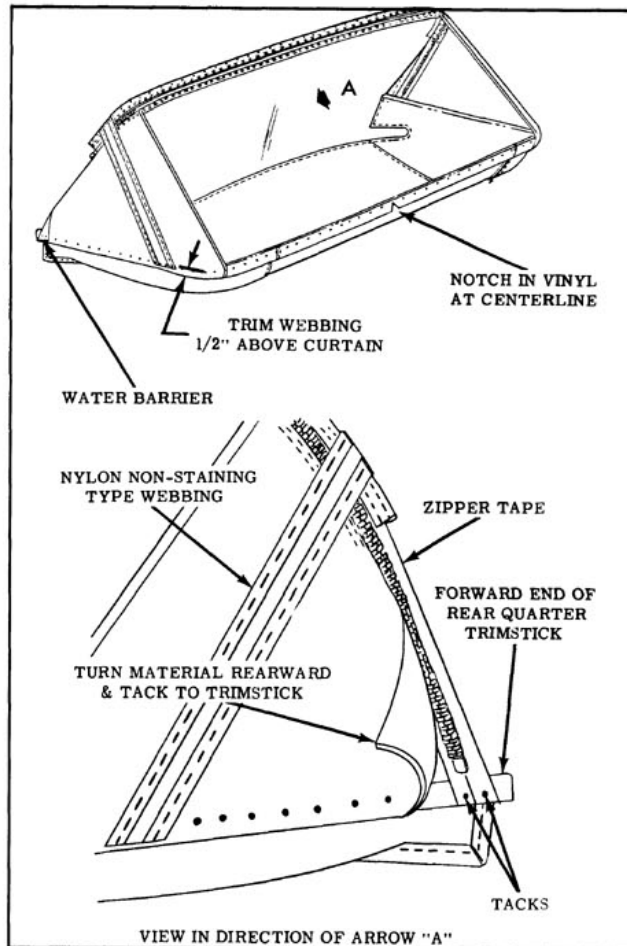

Fig. 16-136 Back Curtain Installation
NOTE: Notch in back curtain vinyl at lower edge indicates centerline of back curtain assembly. (Fig. 16-136) In addition, back curtain lower edge should extend 1/2" below lower edge of trim sticks.
8. Tack curtain to rear and rear quarter trim sticks. On right side, tack zipper tape to forward edge of rear quarter trim stick. ("A", in direction of arrow, Fig. 16-136)
9. Tack remainder of back curtain material to rear quarter trim stick, turning forward edge of material rearward to form a water barrier. (Fig. 16-136)
trimmed off at rear trim stick, 1/2" above back curtain lower edge. (Fig. 16-136)